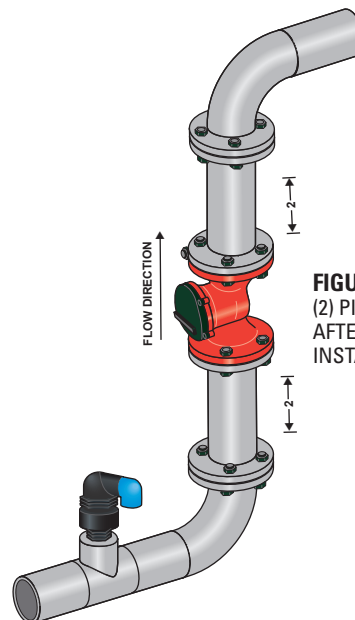

FIGURE 5
- Meter can be installed horizontally or vertically with the water flowing up. It is not recommended for installation where the direction of flow is below the horizontal plane. (See Figure 5)
- Install a pressure breaker after the meter - pipe length should be at least Two (2) diameters and the longer the better.